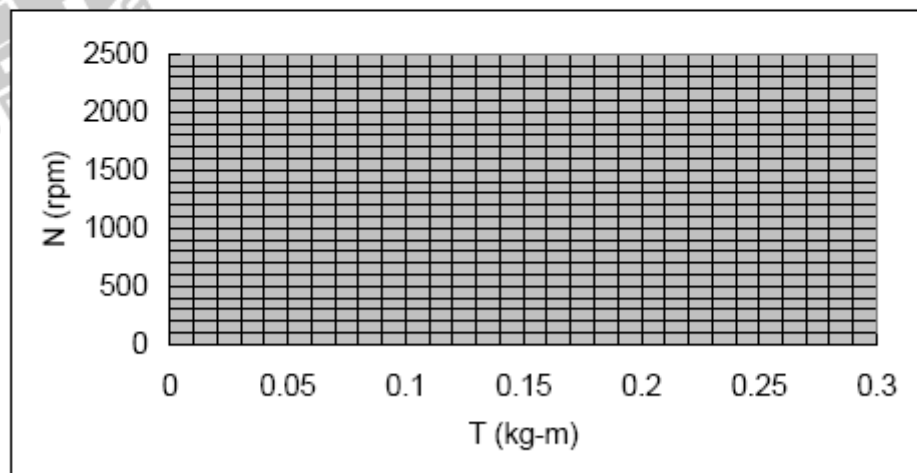

Fig. 3-2-3 The N vs T curve
12. Using the results of Table 3-2-1, plot the N vs T curve on the graph of Fig. 3-2-3.